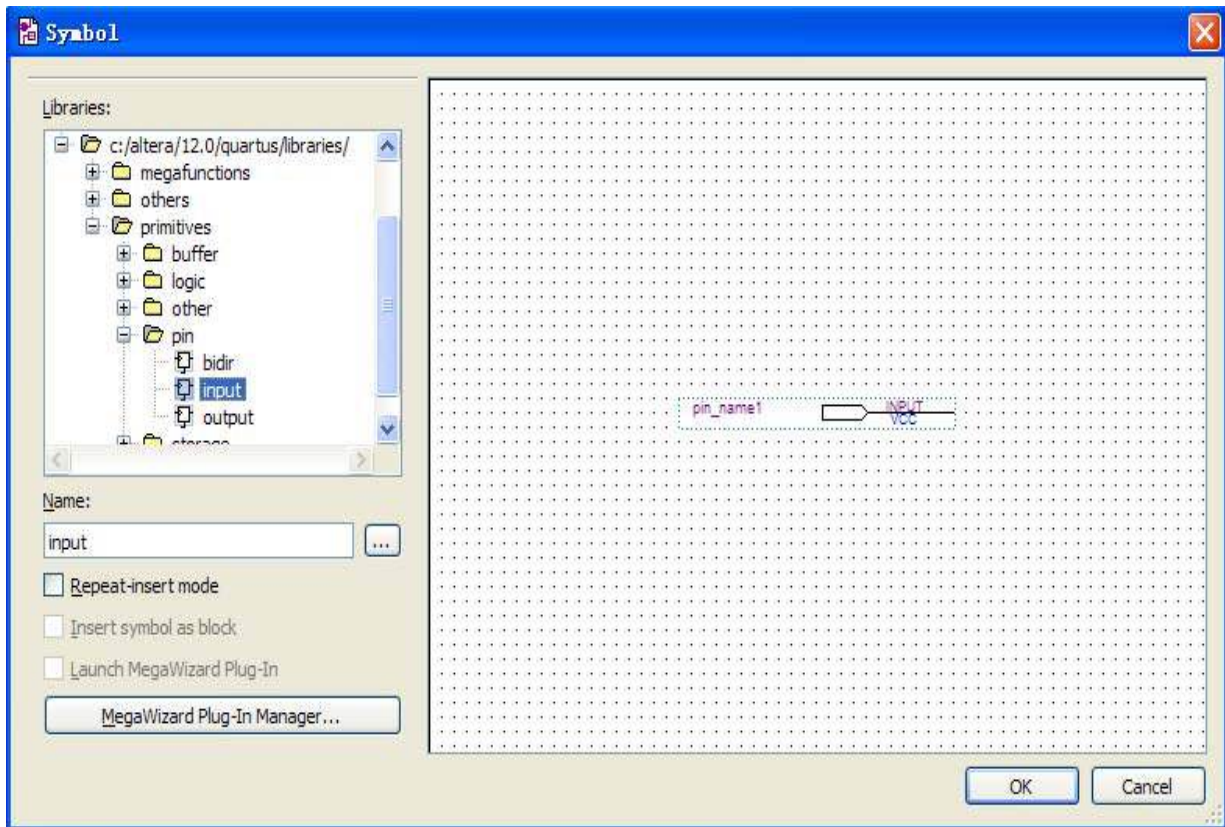

Figure 3-17 Input pin symbol
- b. Under Libraries, select quartus/libraries > primitives > pin >input. See **Figure 3-17**